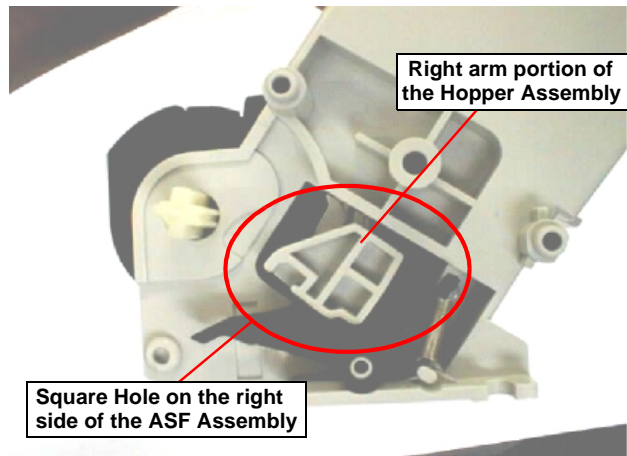

Figure 4-27. Setting the Right Arm of Hopper Assembly
- 6) Set the Right arm portion of the Hopper Assembly to the square hole on the right side of the ASF Frame and remove the Hopper Assembly carefully. Refer to Figure 4-27.